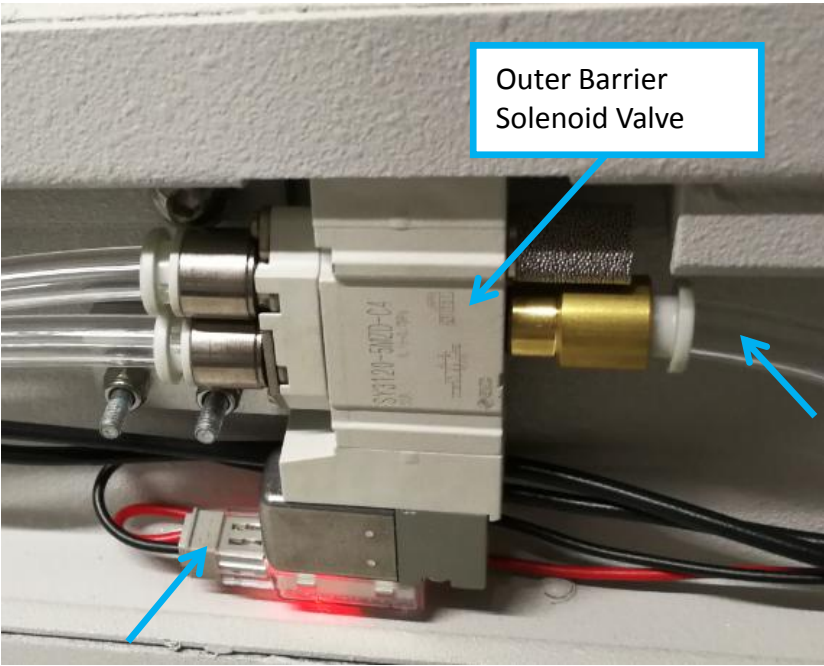

Figure 8
12. Connect Main Tubing & Input Cable as Figure 8.